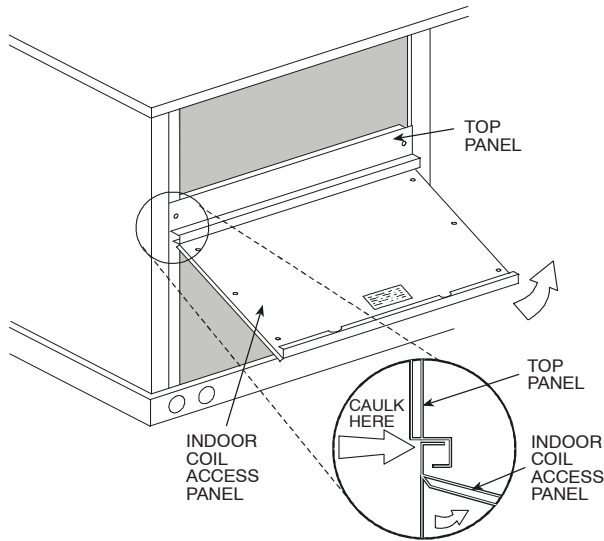

Fig. 9 - Indoor Coil Access Panel Relocation
- The indoor coil access panel will be used as the top of the hood. Remove the screws along the sides and bottom of the indoor coil access panel. See Fig. 9.